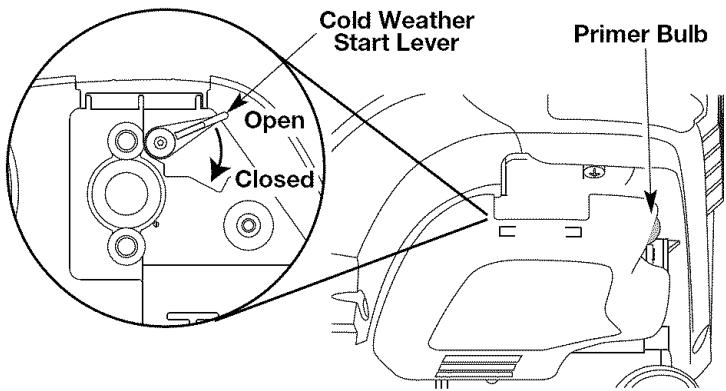

Fig. 7
3. Fully press and release the primer bulb 10 times, slowly. Some amount of fuel should be visible in the primer bulb and fuel lines (Fig. 7). If you can't see fuel in the bulb, press and release the bulb as many times as it takes before you can see fuel in it.
IF UNIT IS BELOW 40°F/4°C... Push the Cold Weather Start Lever (Fig. 7) down to the start/closed position. DO NOT push this lever down if the unit temperature is above 40°F/4°C.